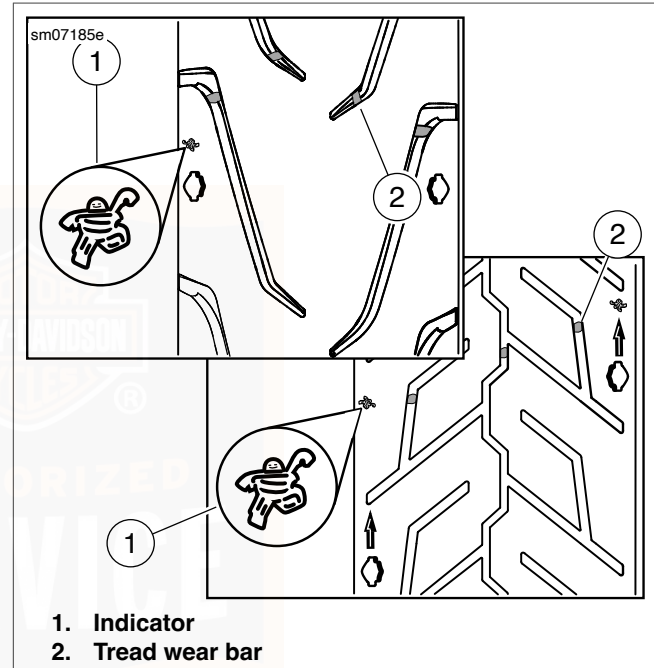
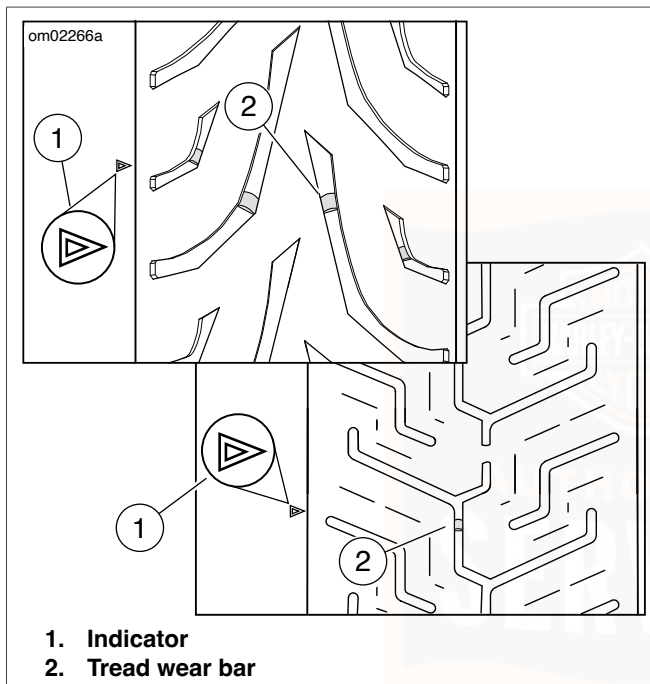

Figure 56. Tread Pattern: Michelin Tires
Figure 57. Tread Pattern: Dunlop Tires
- See Figure 56 or Figure 57. Indicators (1) on the tire sidewalls point to tread wear bars (2) in the tread.